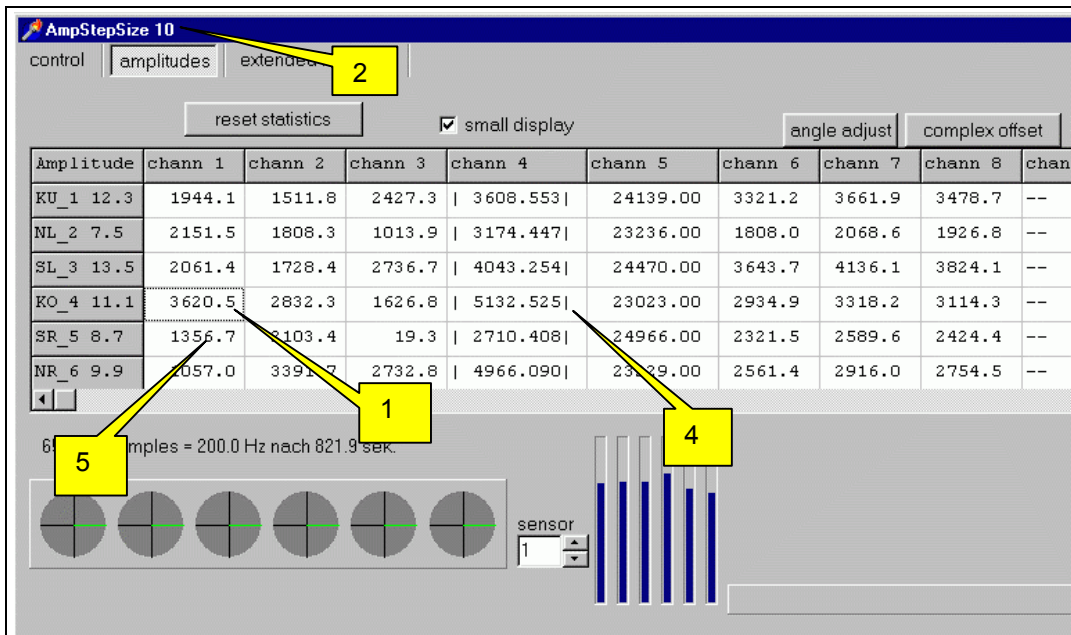

Figure 16:
1. click the row with the desired transmitter (Ko_4 in Figure 16)